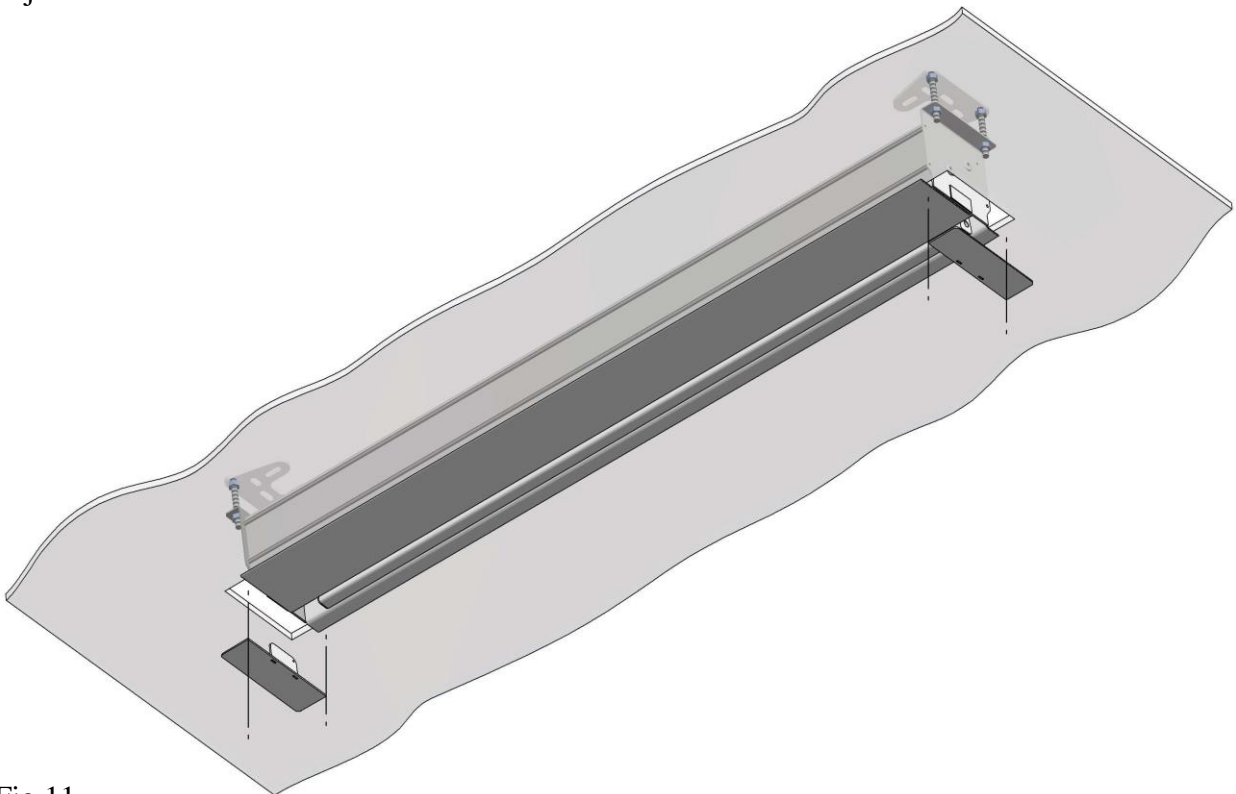

Fig.11
12. After final verification of the entire installation, place the side panels on magnets stuck to the panels (**Fig. 11**). In screens with side tension, unfold the surface completely. If necessary, use the allen key to adjust the tension with the bolts on both sides of the bottom bar.